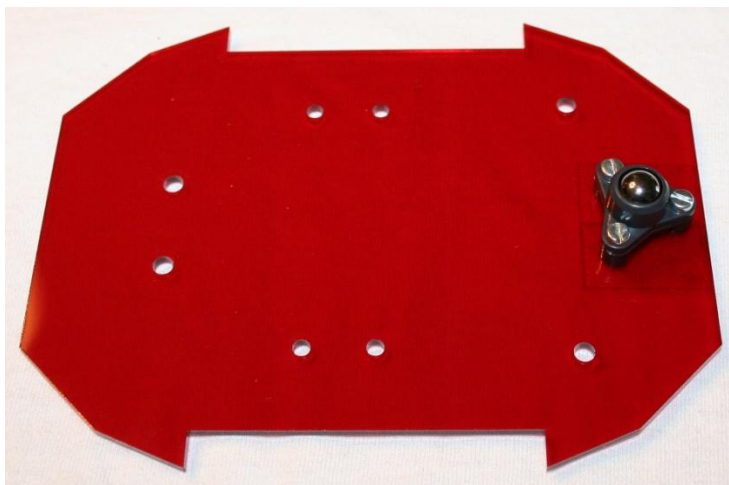

FIG 20. Assemble Rear Caster Wheel to Base Plate.
Refer to figure 20 below for how to attach the rear caster wheel to the base plate using (3) 4-40 x 3/8" machine screws. **Do not** over-tighten screws or you will crack the base plate plastic.